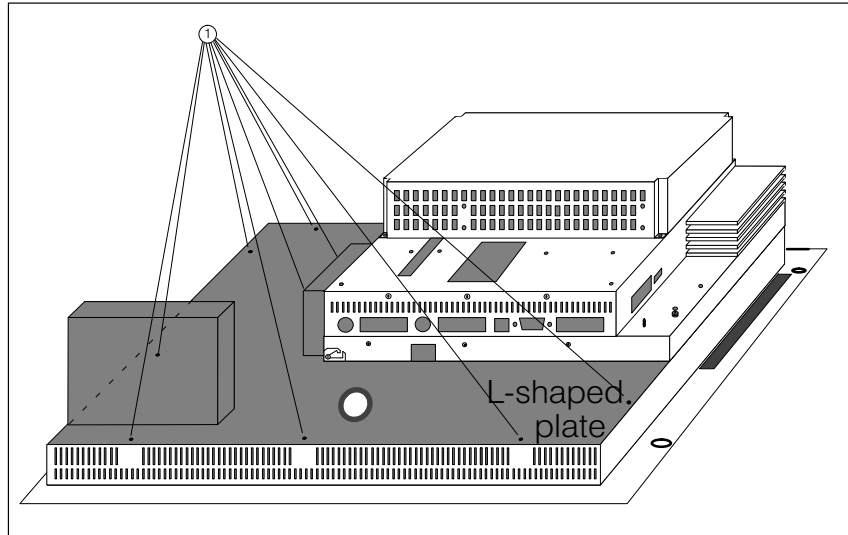

Figure 2-5 Removing the L-shaped plate
release the nine screws (Figure 2-5, ①) from the L-shaped plate on the back of the unit; two of them are on the cover plate next to the PCMCIA slot.
5. Remove the L-shaped plate shaded grey in Figure 2-5.